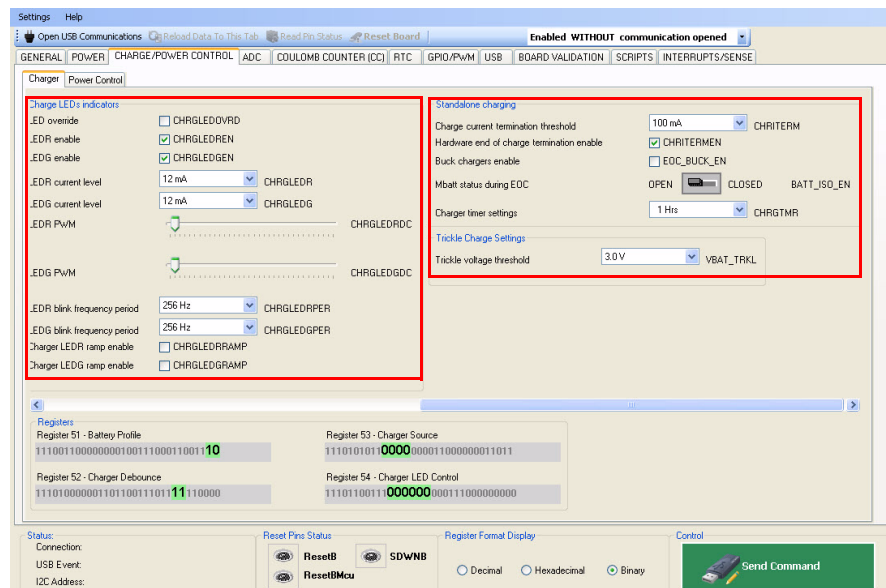

Figure 26. Battery Charger Configuration Tab Window 2
3. Enable or disable the Charge LEDs indicator settings and select the standalone and trickle charging configuration from the list as shown in Figure 26.